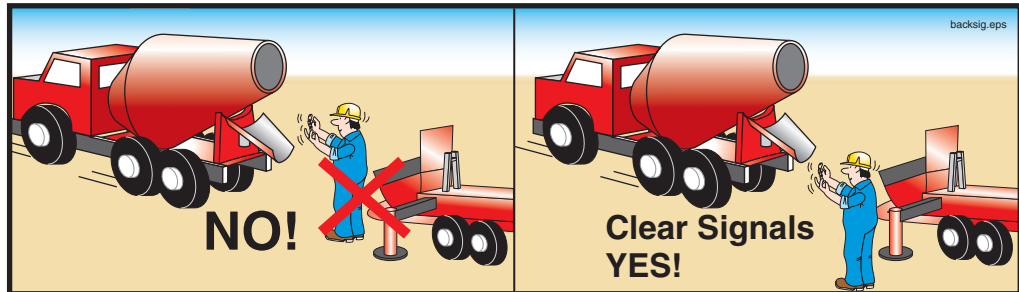

Figure 39
8.6 **⚠️ WARNING** **Crushing hazard! Never, ever** position yourself between a ready mix truck and the pump! Stand off to the side, so the ready mix driver can see you at all times (Figure 39).
8.7 **⚠️ WARNING** When backing in ready mix trucks, use clear and concise hand signals (Figure 39).